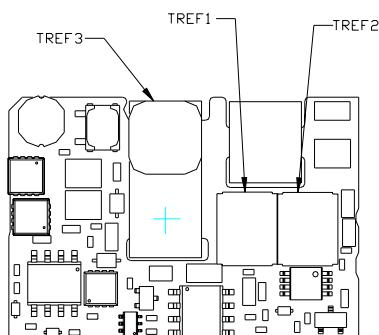

Figure 43. T_{ref} Temperature Measurement Locations.
To provide protection under certain fault conditions, the unit is equipped with a thermal shutdown circuit. The unit will shutdown if the thermal reference point $Tref$ (Figure 43), exceeds 125°C (typical), but the thermal shutdown is not intended as a guarantee that the unit will survive temperatures beyond its rating. The module can be restarted by cycling the dc input power for at least one second or by toggling the remote on/off signal for at least one second. If the auto-restart option (4) is ordered, the module will automatically restart upon cool-down to a safe temperature.
The thermal reference point, T_{ref} used in the specifications is shown in Figure 43. For reliable operation this temperature should not exceed 120°C.